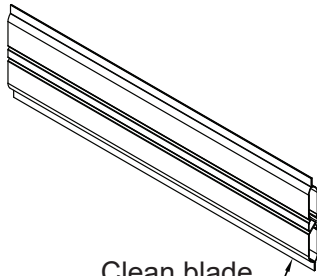

Figure 7
- 1) Clean blade surface where blade seal will be applied with alcohol. (Figure 7)